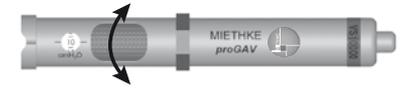

Abb. 16: Adjustment of the *proGAV VERIFICATION TOOL*
3. The *proGAV ADJUSTMENT TOOL* is set to the required opening pressure by turning the knurled dial of the unit (fig. 16).